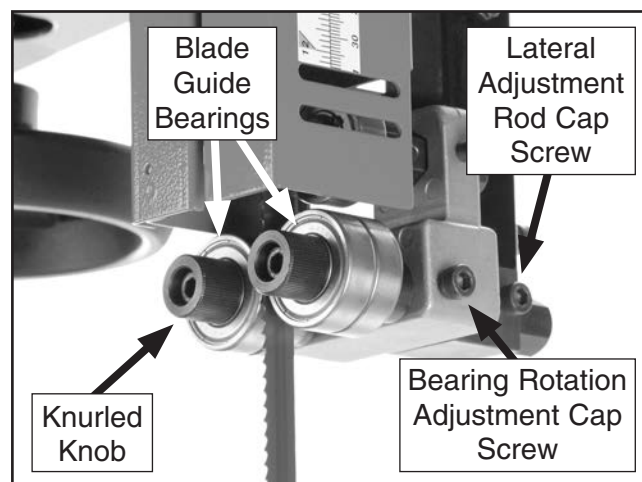

Figure 18. Blade guide controls.
3. Familiarize yourself with the upper blade guide controls shown in **Figure 18**.